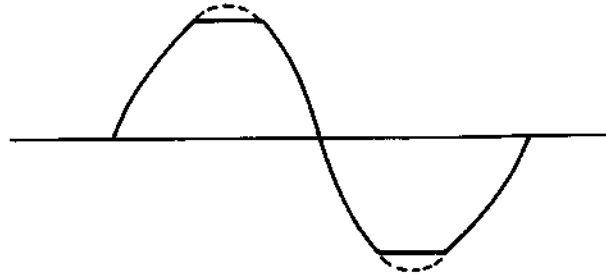

Fig. 2
- Gradually increase the output of the audio oscillator until the wave form on the oscilloscope (see Fig. 2) begins to be clipped. Adjust the left channel potentiometer VR-201 (100 K Ω) and the right channel VR-251 (100 K Ω) so that both upper and lower peaks of the wave forms begin to be clipped simultaneously at the same point of the curve. In case an audio oscillator or an oscilloscope is not available, adjust Potentiometer VR-201 (L.CH.) and VR-251 (R.CH.) so that the voltage between the plus side of the large capacity condenser which is connected to the speaker and ground is half of the supply voltage (80 V). At this time, the VOLUME knob on the front panel should be kept at minimum position